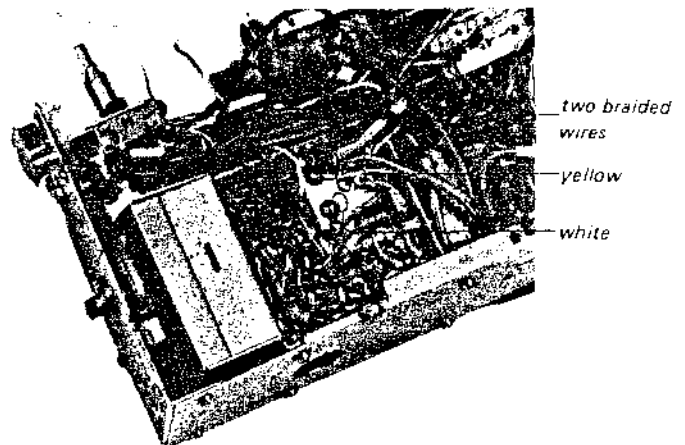

Fig. 2-11
14. Unsolder the two pvc lead wires and two braided wires shown in Fig. 2-11.